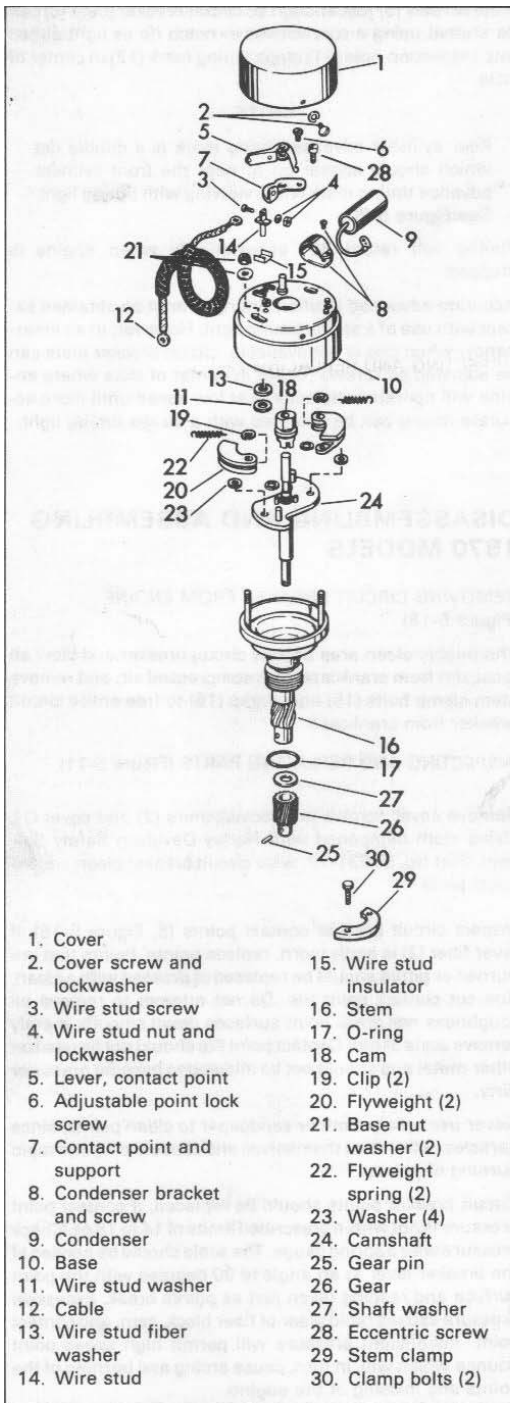

Figure 5-21. 1970 Circuit Breaker - Exploded View
#### INSPECTING AND REPLACING PARTS (Figure 5-21)
Examine the circuit breaker base pivot stud (13) for wear or damaged condition. Try circuit breaker base (10), Figure 5-21 in stem (16) for free turning, but not loose fit. If base is found excessively worn or damaged in any way, renew it.
Examine the coil to circuit breaker low tension wire (12, Figure 5-21) for brittle or cracked insulation and broken strands and replace if defective. Inspect circuit breaker wire stud insulator (15) and fiber washer (13) for brittle or cracked condition. Unless inspection shows insulation defective, it is not necessary to remove stud, insulator and washers.
If renewal of shaft or stem parts is necessary remove pin (25) from gear and lift or press circuit breaker camshaft from gear. Withdraw camshaft from base. If bushings have excessive wear, timer stem assembly can be replaced or stem assembly can be rebushed by drifting out old bushings and installing new bushings. New bushings should require no reaming. When reassembling gear and breaker camshaft use spacer washer (27, Figure 5-21) (.062 thick), (.066 thick), (.072 thick) or (.076 thick) to obtain a .001 to .007 in. shaft end play.
#### INSTALLING CIRCUIT BREAKER (Figure 5-21)